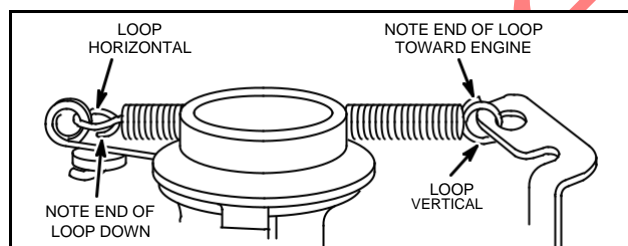

Fig. 330 – CORRECT POSITION OF SPRING
**WARNING:** DO NOT use a needle-nosed pliers or the end loops of the governor spring will be deformed. When the governor spring is correctly installed, the spring will be positioned as shown in Fig. 330.